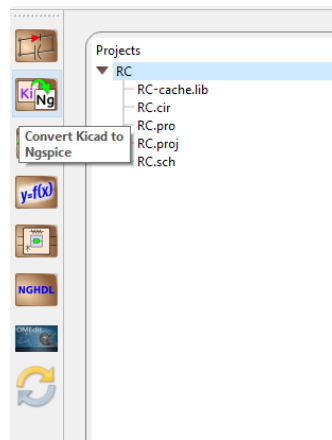

Figure 14.9: Convert KiCad to Ngspice Icon
- Convert KiCad to Ngspice: To convert KiCad netlist of RC circuit to NgSpice compatible netlist click on KiCad to Ngspice icon as shown in Fig. 14.9.